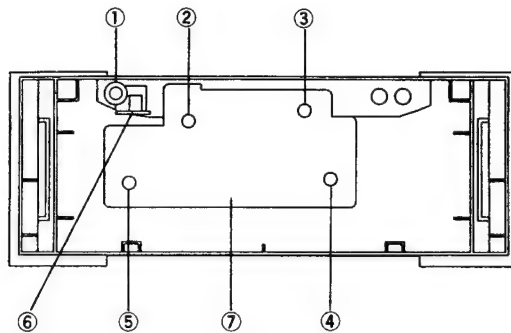

Fig. 7
2. Remove screw ①, in Fig. 7, and then remove pcb-3 ⑥
3. Remove screws ② to ⑤, in Fig. 7, and then remove pcb-4 ⑦